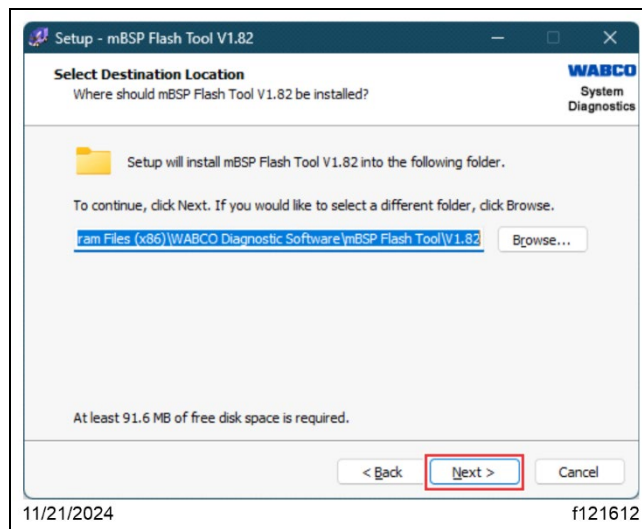

Fig. 37, Selecting the Destination Location
7.8. On the 'Select Destination Location' screen, verify the destination folder, then select 'Next.' See Fig. 37.